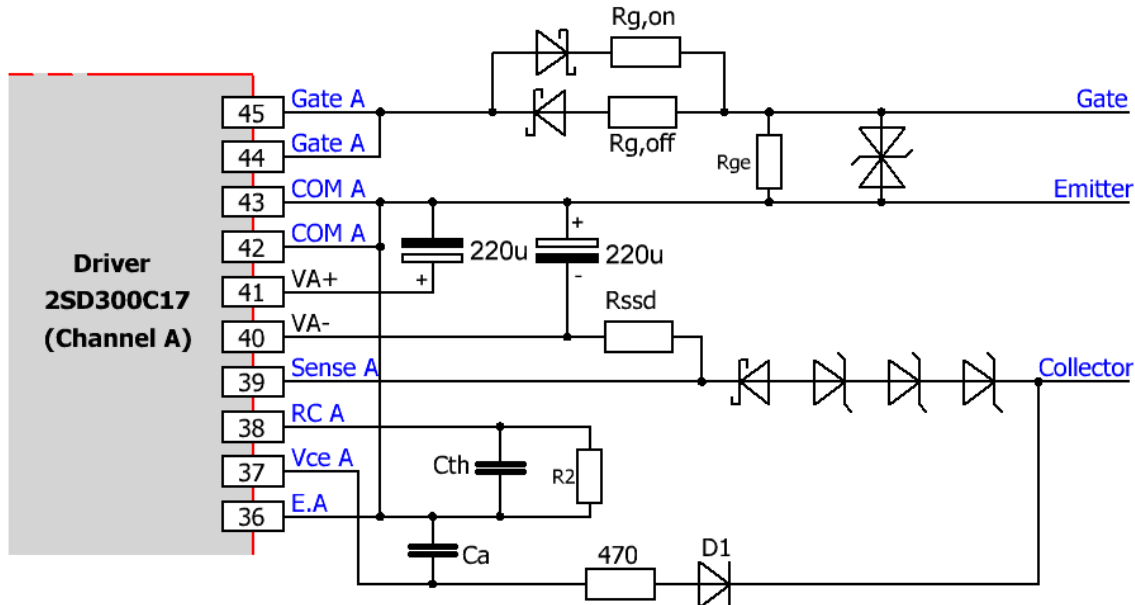

Fig. 7 Recommended user interface of 2SD300C17 (only channel A, secondary side)
Fig. 7 shows the recommended interface circuit for the secondary side of the driver (channel A). The same circuit can be used for channel B (not shown).
The blocking capacitors must be placed between Vx+ and COM x as well as between COM x and Vx- (Fig. 7). They must be connected as close as possible to the driver's terminal pins with minimum inductance. Capacitors with high ripple current capability should be used.
- $R_{ssd}=10k\Omega$ ,  $C_a=1nF$  (Fig. 7)
2SD300C17 drivers are equipped with a dynamic collector sense function. The collector sense must be connected to the IGBT collector with the circuit shown in Fig. 7 in order to detect an IGBT overcurrent or short-circuit. For more details about the functionality of this feature, refer to "Vce monitoring / short-circuit protection" on page 15.
Active clamping can be realized with a feedback from the collector to the Sense x input according to Fig. 7. It is recommended to use the following transient voltage suppressors (TVS):
The 2SD300C17 driver is equipped with a Vce monitoring circuit. The recommended circuit is illustrated in Fig. 7. A resistor and a capacitor (Rth and Cth in Fig. 7) are used as the reference elements for defining the dynamic turn-off threshold.